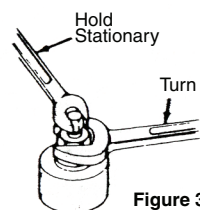

Figure 3
4. While punching, hold the drive screw with one wrench and turn the drive nut with another. (See Figure 3)
- CAUTION! Always hold the drive screw stationary and turn the drive nut (See Figure 3), except for the 3/4" through 2" sizes which have no drive nut.*
4. Always hold the screw stationary and punch by turning the drive nut (except for 3/4" through 2" sizes which do not use a drive nut). (See Figure 3)